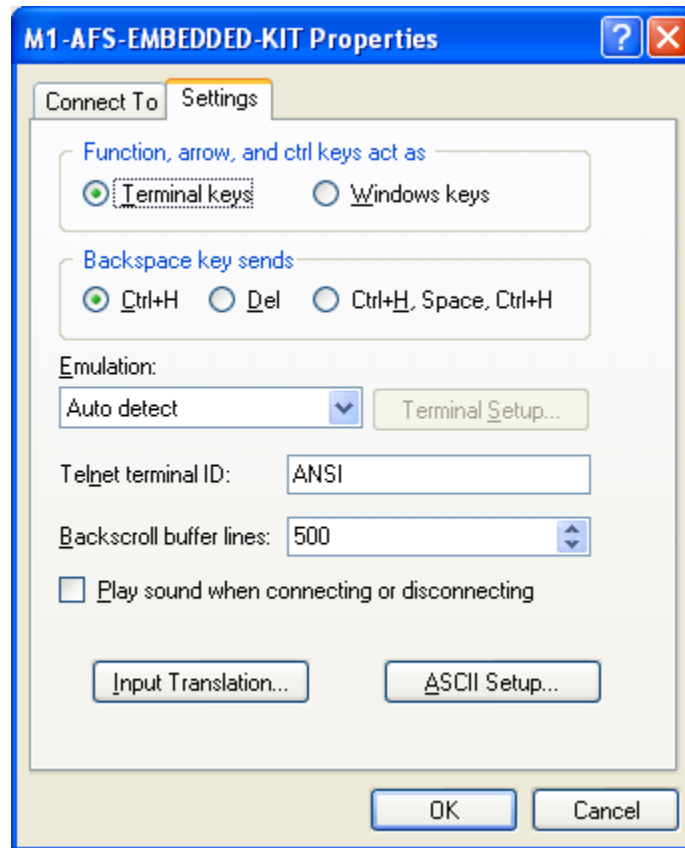

Figure C-9 · HyperTerminal Settings Tab
5. Select File >Properties in the HyperTerminal window. Choose the Settings tab (Figure C-9).